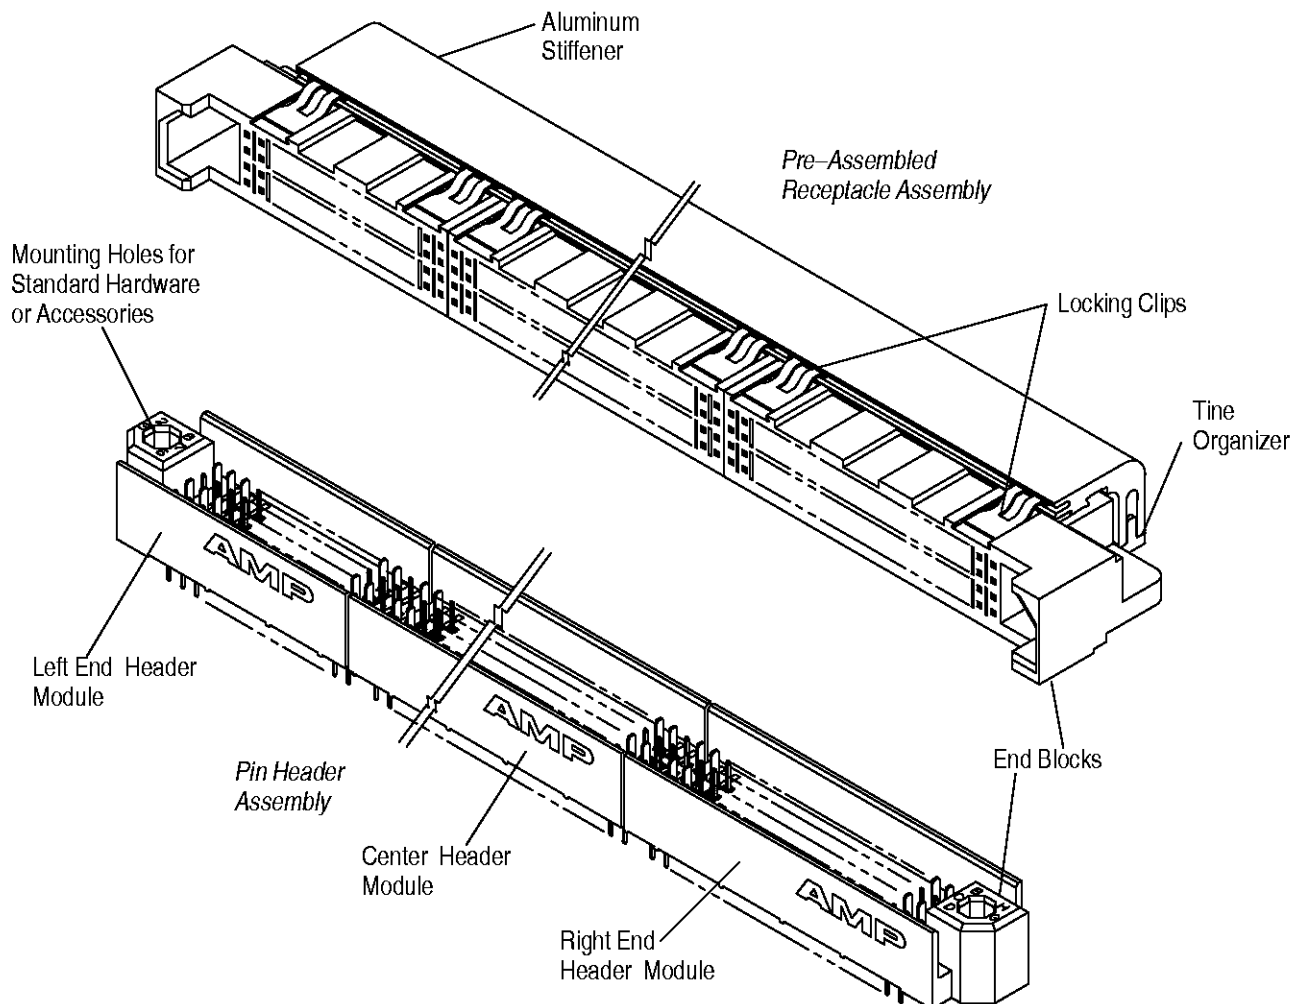

Figure 1
When corresponding with AMP personnel, use the terminology provided on this specification to help facilitate your inquiry for information. Basic terms and features of components are provided in Figure 1.
- Revised art in Figures 1, 2, 3, 4, 6, 10, 11, 12, 14